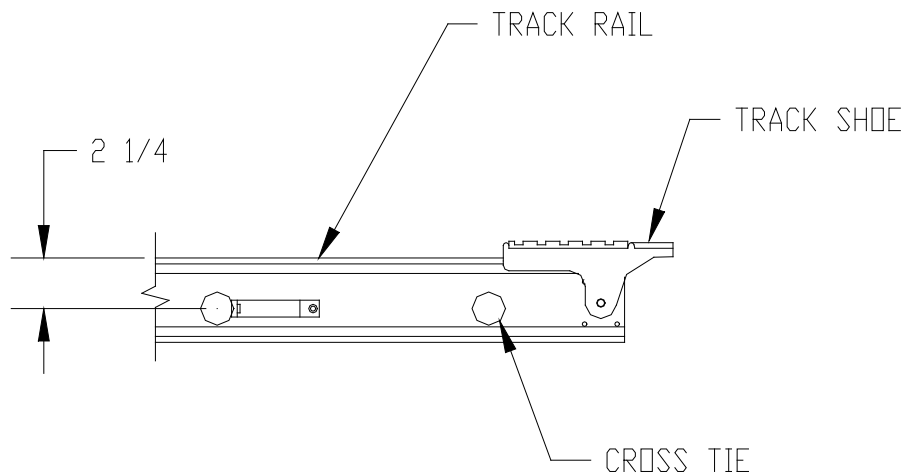

Figure 3-1.
1. Refer to Figure 3-1. Both models have the track cross ties offset from the center of the rails to allow passage of the platform wheels. Before erecting the track, lay the bottom 16-foot track section on the ground with the track shoes as shown with the greater cross tie offset on top (2-1/4").